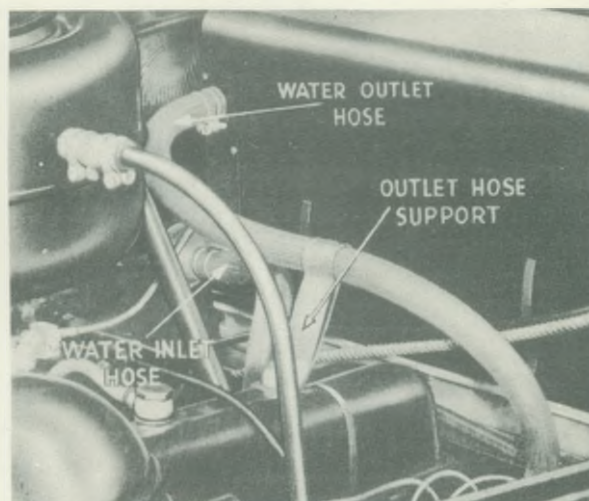

Fig. 38. Showing 4 K.W. Unit Water Hoses and Support Bracket for Outlet Pipe
13. To complete the installation, the water hose connections should be made, fitting the return pipe support bracket as shown in Fig. 38, and lastly the blower hoses should be coupled to the heater and duct.